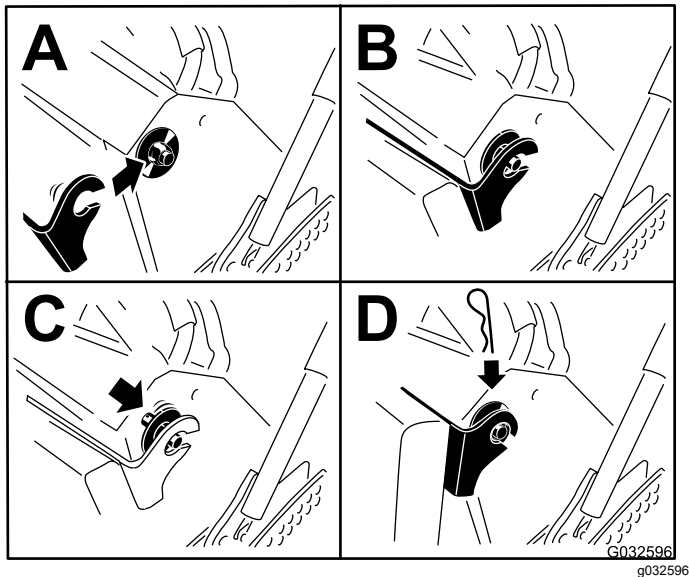

Figure 35
6. Raise the cushion and slide it onto the pins on both sides of the machine (Figure 35).
7. Slide the large washers with plastic bushings into the cushion bracket and secure them with a hairpin-cotter pin (Figure 35).